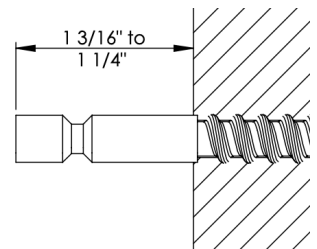

Fig 2
- 2) Drive the Hanger Screw (part #1) into the pre drilled hole and secure the lag end of the stud using a 4mm Wrench. Desired distance from the wall is in between 1 3/16" to 1 1/4" as shown in Fig 2.